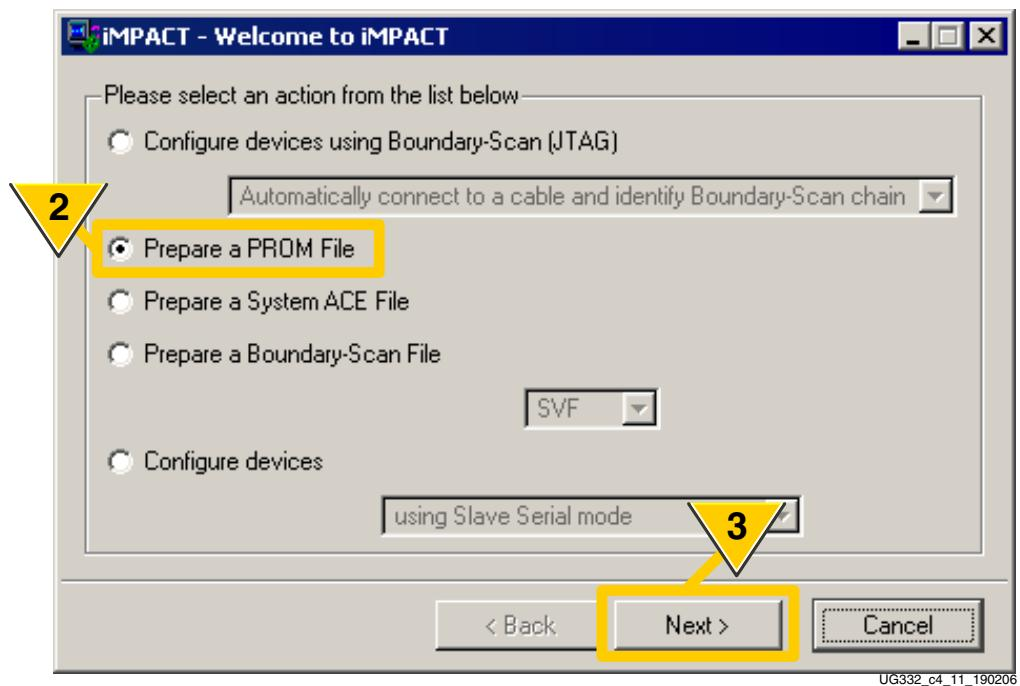

Figure 5-8: Prepare a PROM File
2. As shown in Figure 5-8, select **Prepare a PROM File**.